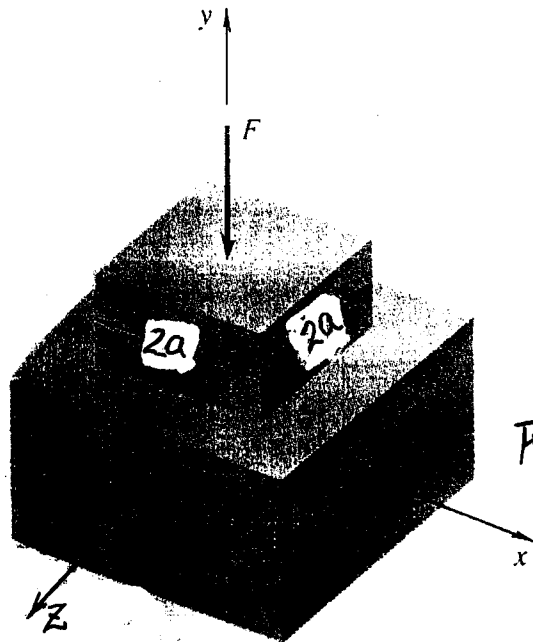

Fig. 1
1. An elastic material fills a cavity with sides $2a$ and height L in a rigid block, as shown in Fig. 1. A rigid cap is placed on the top of the elastic material, and a compressive force F is applied to the cap at the same time as the temperature is increased. (25%)